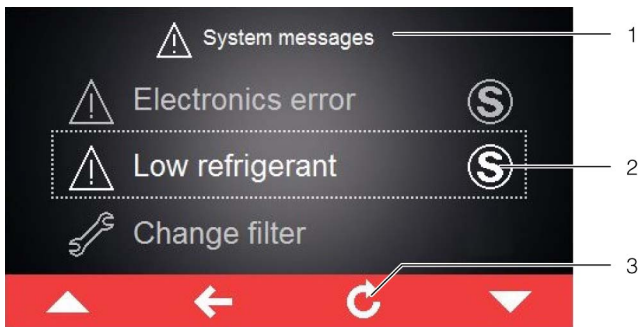

Fig. 34: Screen showing error messages
If an error message applies that cannot be resolved by the operator himself and which is not reset automatically, the "Service" symbol will appear after the error message and in the control bar next to the symbol for system messages (fig. 34, item 2).